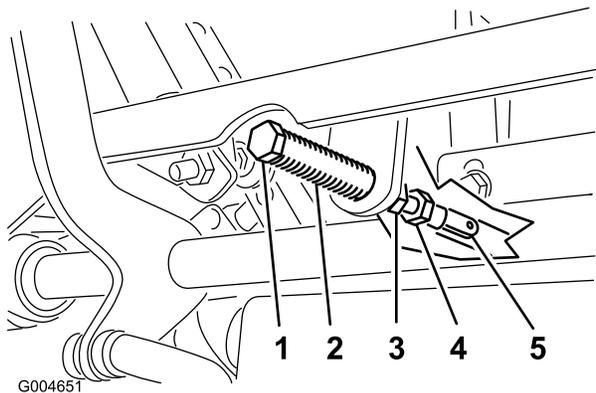

Figure 85
5. Pull the lever back until the clevis pin (on an arm above the pivot shaft) contacts the end of the slot (just beginning to put pressure on the spring) as shown in Figure 85.
7. If adjustment is needed, loosen the nut and jam nut against the yoke (Figure 85).
8. Applying slight rearward pressure on the motion-control lever, turn the head of the adjustment bolt in the appropriate direction until the control lever is centered in the NEUTRAL-LOCK position (Figure 85).
9. Tighten the nut and jam nut (Figure 85).
10. Tighten the jam nuts at the ball joints (Figure 85).